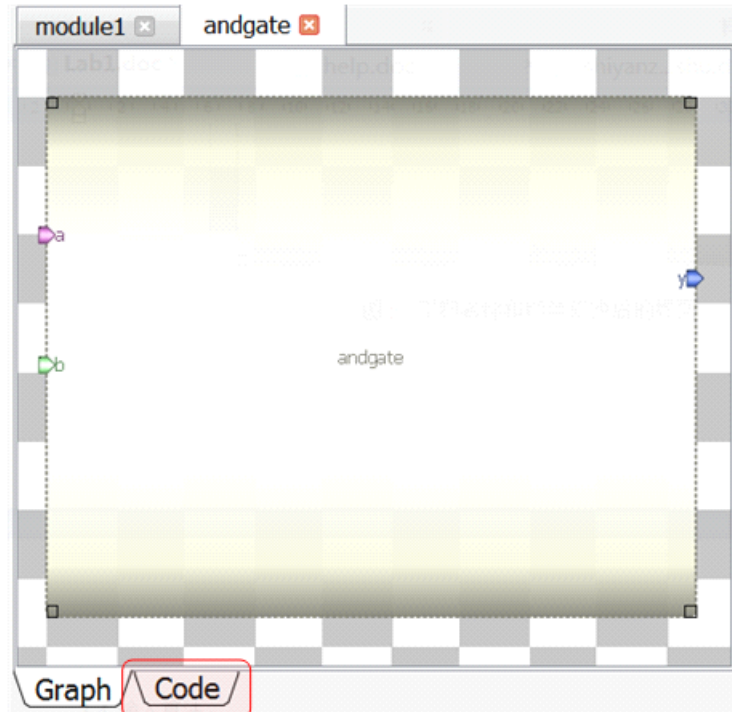

Fig. 6. Location of “Code” tab
- 4) Code algorithm. Click on the “Code” tab under module, code editor will show up for you to typing algorithm code for this module (shows in fig.6).